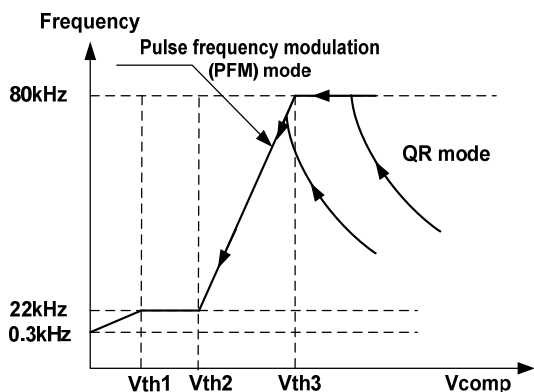

Figure 2 Multi-mode operation diagram
OB2576xT is an excellent integrated multi-mode (see Figure 2) PWM power switch optimized for off-line middle power AC/DC applications. It operates in quasi-resonant mode (QR) to provide high efficiency with primary side sensing and regulation thus provides cost effective solution for energy efficient power supplies.